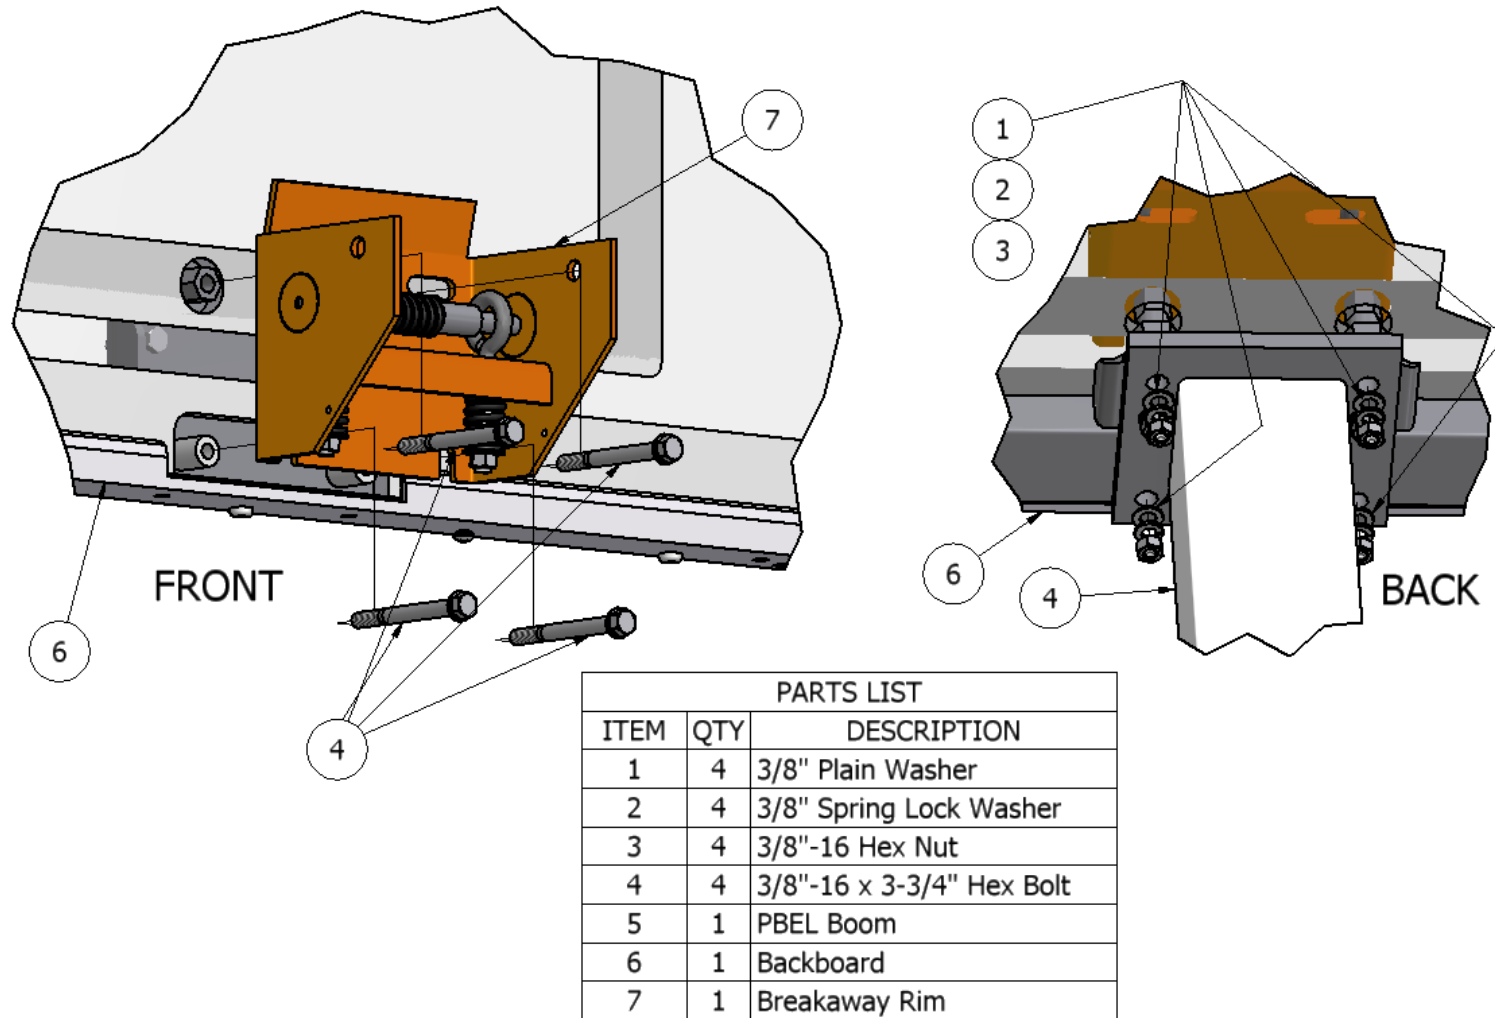

Figure 6-6: Attach rim to board.
9. Fasten rim to board using the 3/8" -16 x 3¾" hex bolts (4X), 3/8" flat washers (8X), 3/8" split washers (4X), and 3/8" flanged nuts (4X) as shown in Figure 6-6. Ensure that rim is level, side-to-side⁴, before fully tightening nuts.